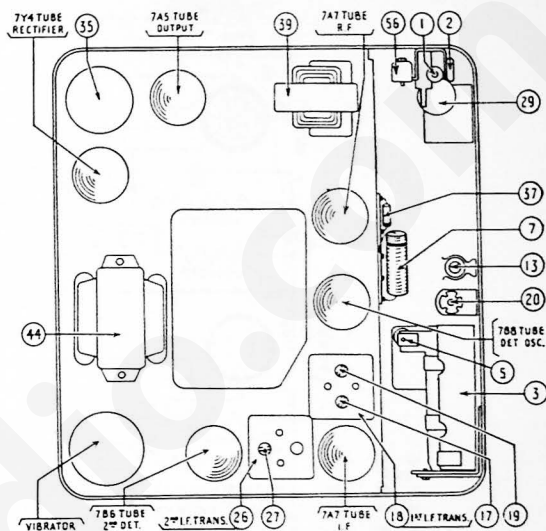

FIGURE 1
**NOTE 5**—When installing the radio in the car, follow the installation instructions carefully. Tune in a weak broadcast signal between 1200 and 1400 Kilocycles on the control scale. Remove the plug button on the end of the radio and adjust the aerial compensator (24) (see Figure 1) for maximum signal.